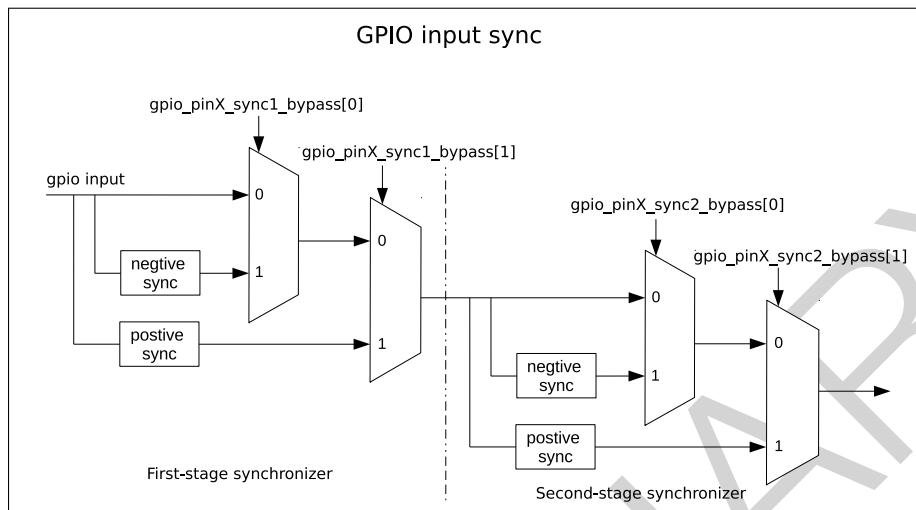

Figure 5-4. GPIO Input Synchronized on APB Clock Rising Edge or on Falling Edge
Figure 5-4 shows the functionality of GPIO SYNC. In the figure, negative sync and positive sync mean GPIO input is synchronized on APB clock falling edge and on APB clock rising edge, respectively.
- Set `GPIO_PINX_SYNC1_BYPASS` to enable input signal synchronized on rising edge or on falling edge in the first clock, see Figure 5-4.
- Set `GPIO_PINX_SYNC2_BYPASS` to enable input signal synchronized on rising edge or on falling edge in the second clock, see Figure 5-4.